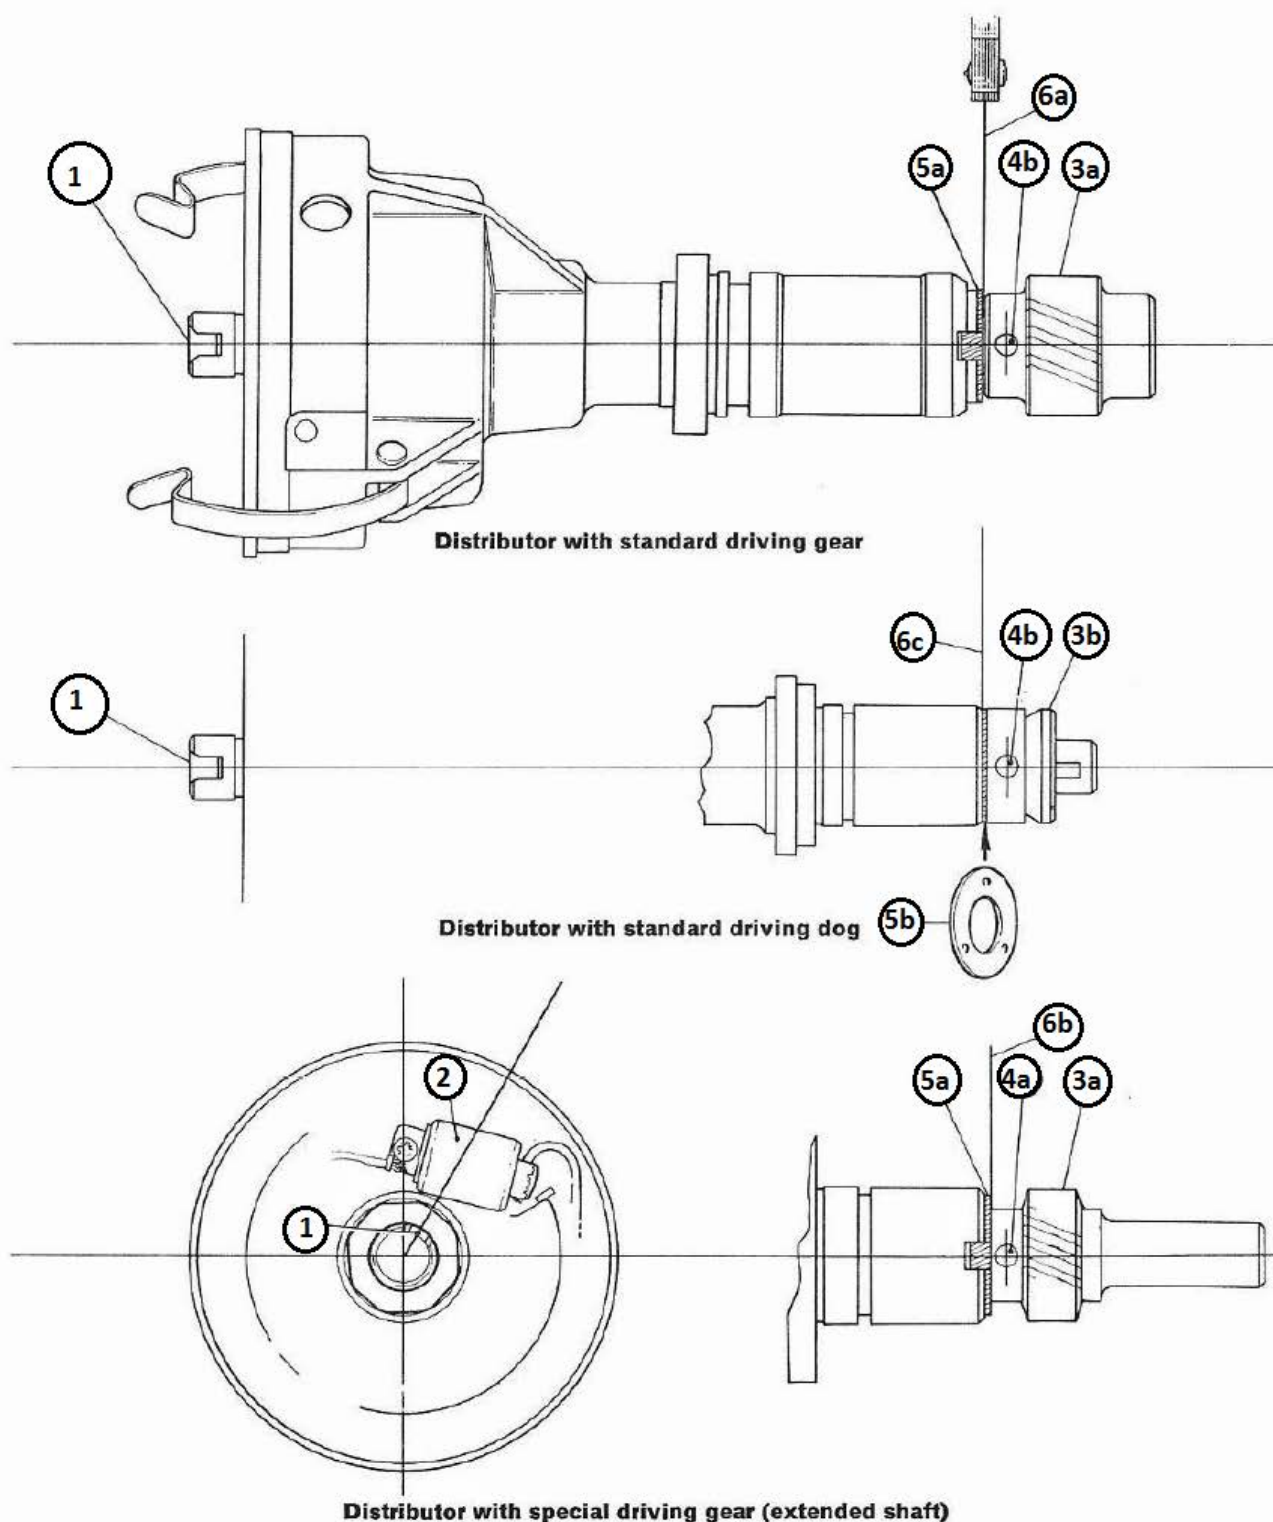

Fig. 5 Positioning driving dog or gear on distributor shaft
Note: Method of fixing may vary, and items 30 and 31 may be driving dog arrangement shown in Fig. 5.